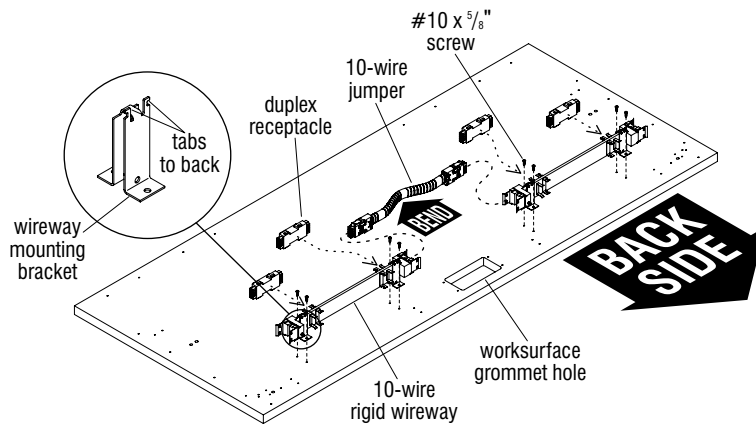

Figure 10 - Single-Sided Fixed Benching with 10-Wire Power
**Important:** If installation includes Modesty Panels or Privacy Screens with "Activ8 or no power", steps 1 & 2 on this page (Figures 7 & 8) should be followed. If the installation includes 10-Wire Power, follow steps 1 thru 4 on pages 9 & 10 (Figures 10 & 11) and pre-assemble electrical and modesty panel brackets or privacy screen brackets before installing worksurfaces to legs and beams. If installation includes electrical hardware, follow steps 1 thru 2 on page 22 (Figures 30 & 31) and pre-assemble hardware junction box mounting brackets and lock brackets or modesty panel brackets before installing worksurfaces to legs and beams.
1. Position 10-wire rigid wireway(s) over pre-drilled holes in underside of worksurface. **Important:** The tabs on the wireway mounting brackets must be located toward the back side of the worksurface when the 10-wire rigid wireway is installed to worksurface. Secure rigid wireway(s) to underside of worksurface with four #10 x 5/8" screws per wireway (Figure 10).
2. If more than one wireway is installed to the underside of the worksurface, a 10-wire jumper must be installed between the wireways. Plug the 10-wire jumper in between the rigid wireways and **it is important to bend the excess cable toward the user-side** to keep clear of the grommet hole in the worksurface (Figure 10).
3. Per the space-planning layout, insert receptacles into the 10-wire rigid wireways at the side facing the user. When installed and worksurfaces are upright, the circuit numbers will be upside down (Figure 10).